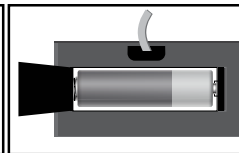

Figure 11.3
3. Remove and replace the AAA battery and then close the cover and slide back into the locked position (Figure 11.3).